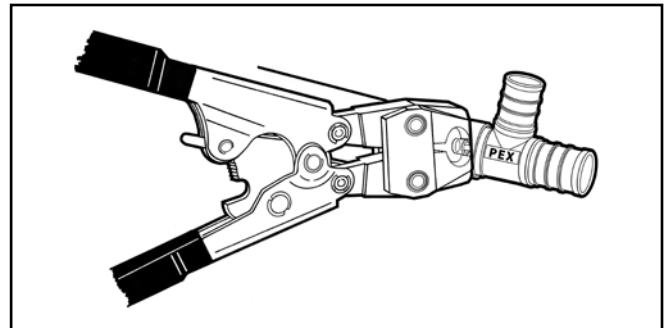

Fig. 4: Close clamp ear with tool
2. Close clamp ear with tool, tool will not release until clamp is fully closed. (Fig. 4)